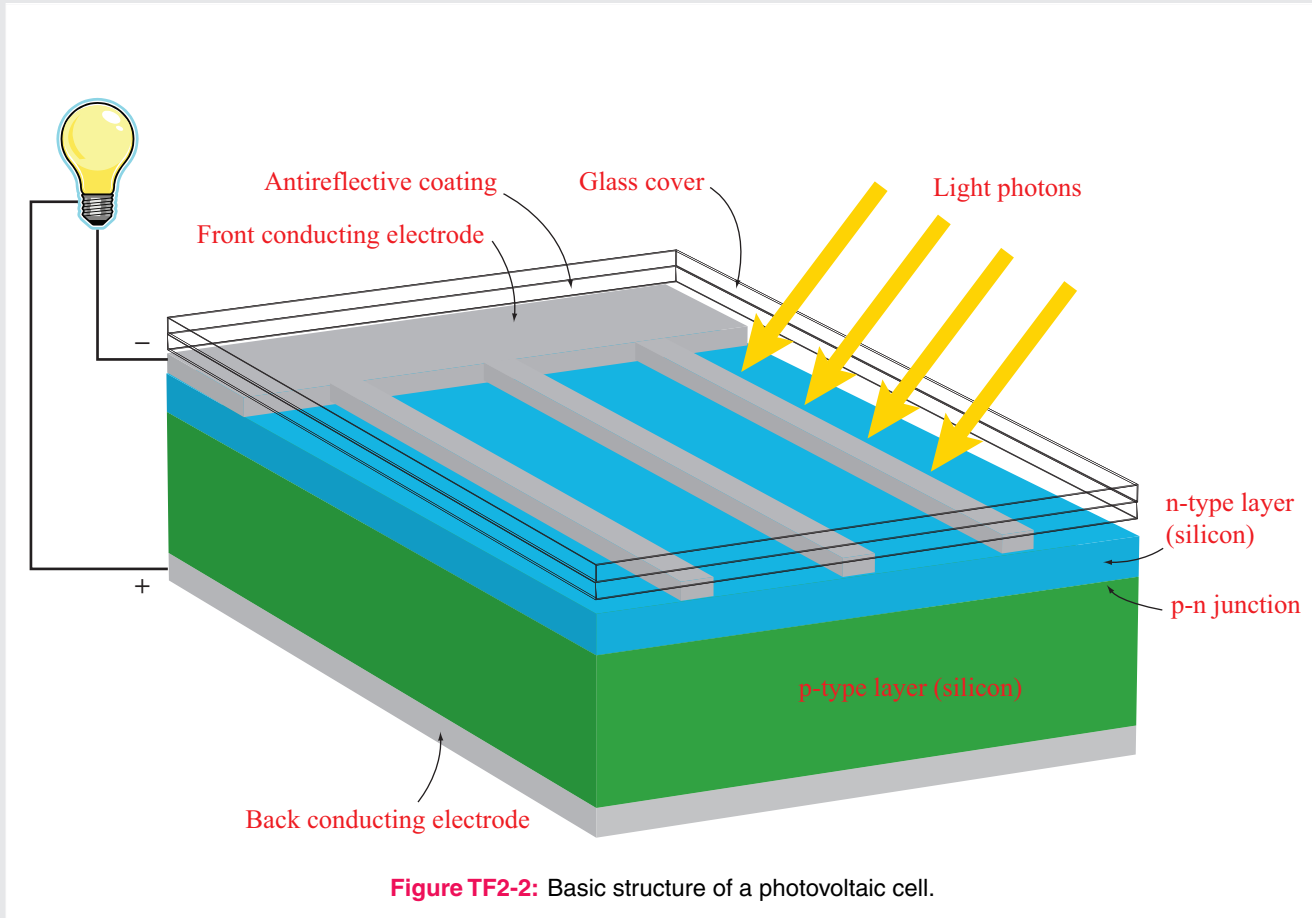

Figure TF2-2: Basic structure of a photovoltaic cell.
Today's photovoltaic (PV) cells are made of semiconductor materials. The basic structure of a PV cell consists of a **p-n junction** connected to a load (Fig. TF2-2).
The **conversion efficiency** of a PV cell depends on several factors, including the fraction of the incident light that gets absorbed by the semiconductor material, as opposed to getting reflected by the n-type front surface or transmitted through to the back conducting electrode. To minimize the reflected component, an antireflective coating usually is inserted between the upper glass cover and the n-type layer (Fig. TF2-2).
The PV cell shown in Fig. TF2-2 is called a **single-junction cell** because it contains only one p-n junction. The semiconductor material is characterized by a quantity called its **band gap energy**, which is the amount of energy needed to free an electron away from its host atom. Hence, for that to occur, the wavelength of the incident photon (which, in turn, defines its energy) has to be such that the photon's energy exceeds the band gap of the material. Solar energy extends over a broad spectrum, so only a fraction of the solar spectrum (photons with energies greater than the band gap) is absorbed by a single-junction material. To overcome this limitation, multiple p-n layers can be cascaded together to form a **multijunction PV device** (Fig. TF2-3). The cells usually are arranged such that the top cell has the highest band gap energy, thereby capturing the high-energy (short-wavelength) photons, followed by the cell with the next lower band gap, and so on. The multijunction technique offers an improvement in conversion efficiency of 2–4 times over that of the single-junction cell. However, the fabrication cost is significantly greater as well.